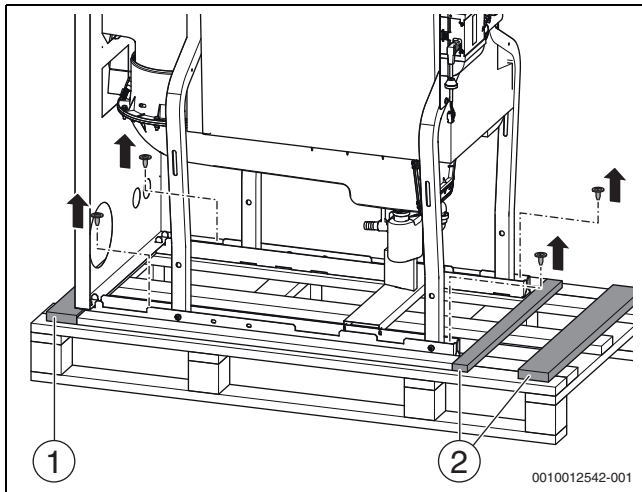

Fig. 7 Detaching the boiler from the pallet (example for illustration purposes)
- ▶ Depending on the pushing direction, remove corresponding fixing strip (→ Fig. 7).